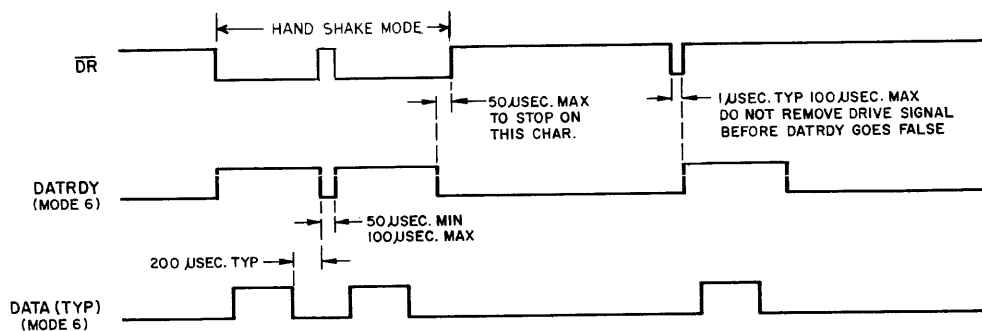

Figure 3-5. Timing Diagram for Reader
The following procedure should be followed when reading a tape. Refer to Figures 3-5 and 3-6 during the following descriptions.
- b. Apply the step pulse to the drive left (DL*) line, pin 17 of J2, or the drive right (DR*) line, pin 16 of J2 as follows. Make sure the Data Ready signal at pin 9 of J2 is in the true condition depending upon mode and that the (EXTINH)* input signal at J2, pin 15, is false ($+2.4 < V < +5.0$ or open circuited). See Table 3-1 and Figure 3-5.
The minimum pulse width for the run signal is 1 usec. Pulse to be maintained until Data Ready signal goes false (up to 100 usec., if next pulse is given coincident with Data Ready signal going true). Pulse to be removed within 50 usec. after leading edge of Data Ready signal to stop on that character. Handshake operation is preferred. In handshake operation, the drive signal is maintained until Data Ready comes true, is taken false while data is examined and then, if required, taken true again until the next Data Ready comes true. See Figure 3-5.
- b. Apply the drive left (DL*) signal to pin 17 of J2 or the drive right (DR*) signal to pin 16 of J2 as required. Make sure the Data Ready signal at pin 9 of J1 is in the true condition depending upon mode and that the (EXT INH)* input signal at J2, pin 15, is false ($+2.4 < V < +5.0$ or open circuited). See Table 3-1 and Figure 3-5.